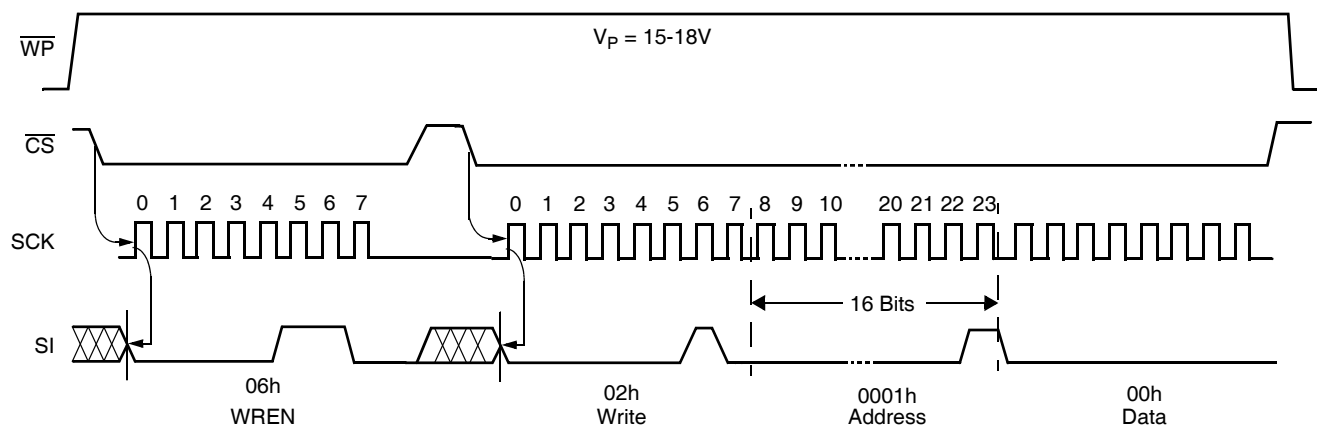

FIGURE 1. SET V_{TRIP} LEVEL SEQUENCE ($V_{\text{CC}} = \text{DESIRED } V_{\text{TRIP}} \text{ VALUE}$)
0000 0001	Write status instruction—followed by: Block lock/WDT byte: (See Figure 1) 000WD ₁ WD ₂ 000 --->no block lock: 00h-00h--->none of the array 000WD ₁ WD ₂ 001 --->block lock Q1: 0000h-00FFh--->lower quadrant (Q1) 000WD ₁ WD ₂ 010 --->block lock Q2: 0100h-01FFh--->Q2 000WD ₁ WD ₂ 011 --->block lock Q3: 0200h-02FFh--->Q3 000WD ₁ WD ₂ 100 --->block lock Q4: 0300h-03FFh--->upper quadrant (Q4) 000WD ₁ WD ₂ 101 --->block lock H1: 0000h-01FFh--->lower half of the array (H1) 000WD ₁ WD ₂ 110 --->block lock P0: 0000h-000Fh--->lower page (P0) 000WD ₁ WD ₂ 111 --->block lock Pn: 03F0h-03FFh--->upper page (PN)